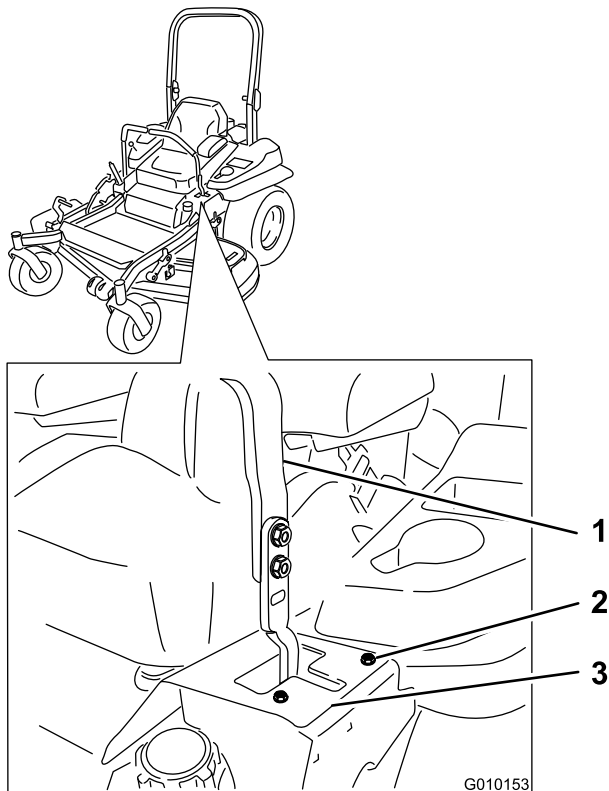

Figure 59
6. If it tracks to the right, loosen the bolts and adjust the left stop plate rearward on the left T-slot until the machine tracks straight (Figure 59).
7. If it tracks to the left, loosen the bolts and adjust the right stop plate rearward on the right T-slot until the machine tracks straight (Figure 59).
8. Tighten the stop plate (Figure 59).